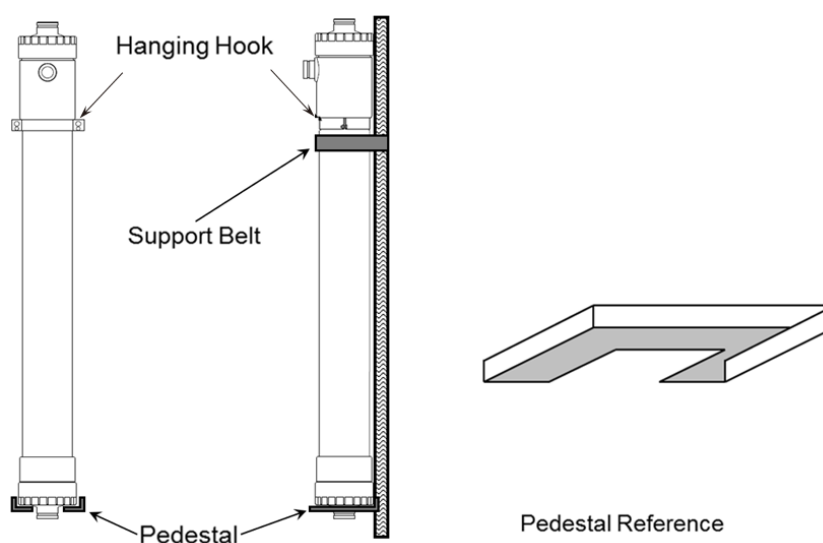

Figure 7-1: Example of Membrane Module Installation
4. Prepare a pedestal that matches the shape of the bottom cap of each type of module. And put the module vertically on the pedestal in the module rack. Fix the module upright with the connections and/or a support belt (see Figure 7-1).